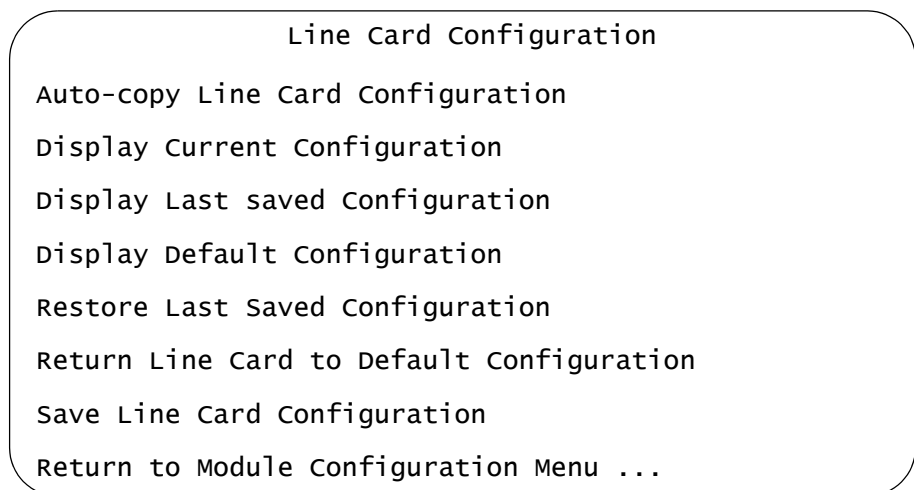

Figure 62. Line Card Configuration Menu
3. Select **Line Card Configuration** to display the menu in Figure 62 on page 153.
3. Select **Line Card Configuration** to display the Line Card Configuration Menu in Figure 62.